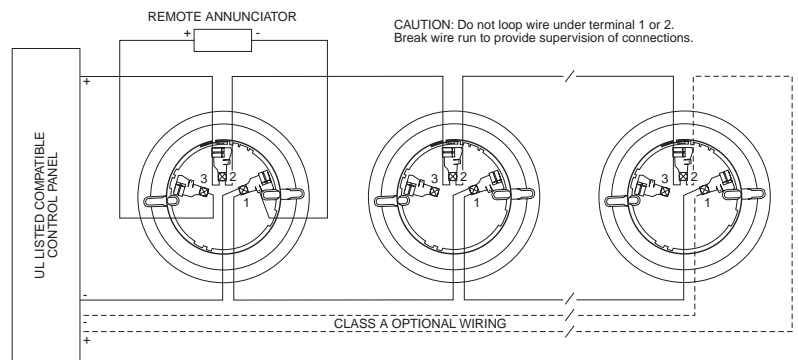

Figure 1.
1. Wire the sensor base (supplied separately) per the wiring diagram, see Figure 1.